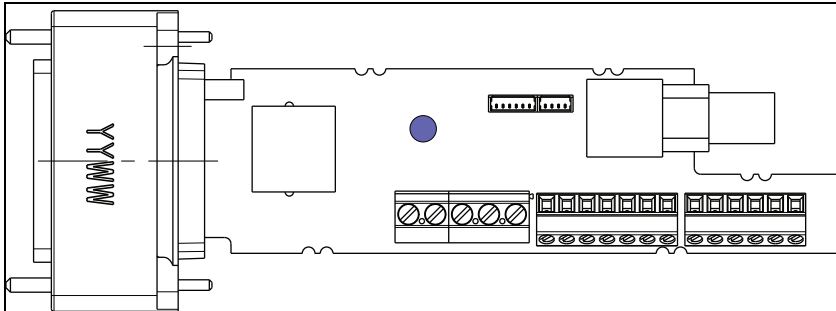

Figure 3: New VG4-A-9543 Pipe Interface Board
- VG4 Pipe Mount Interface Board (VG4-A-9543) without a visible date code stamped as shown in Fig. 3.